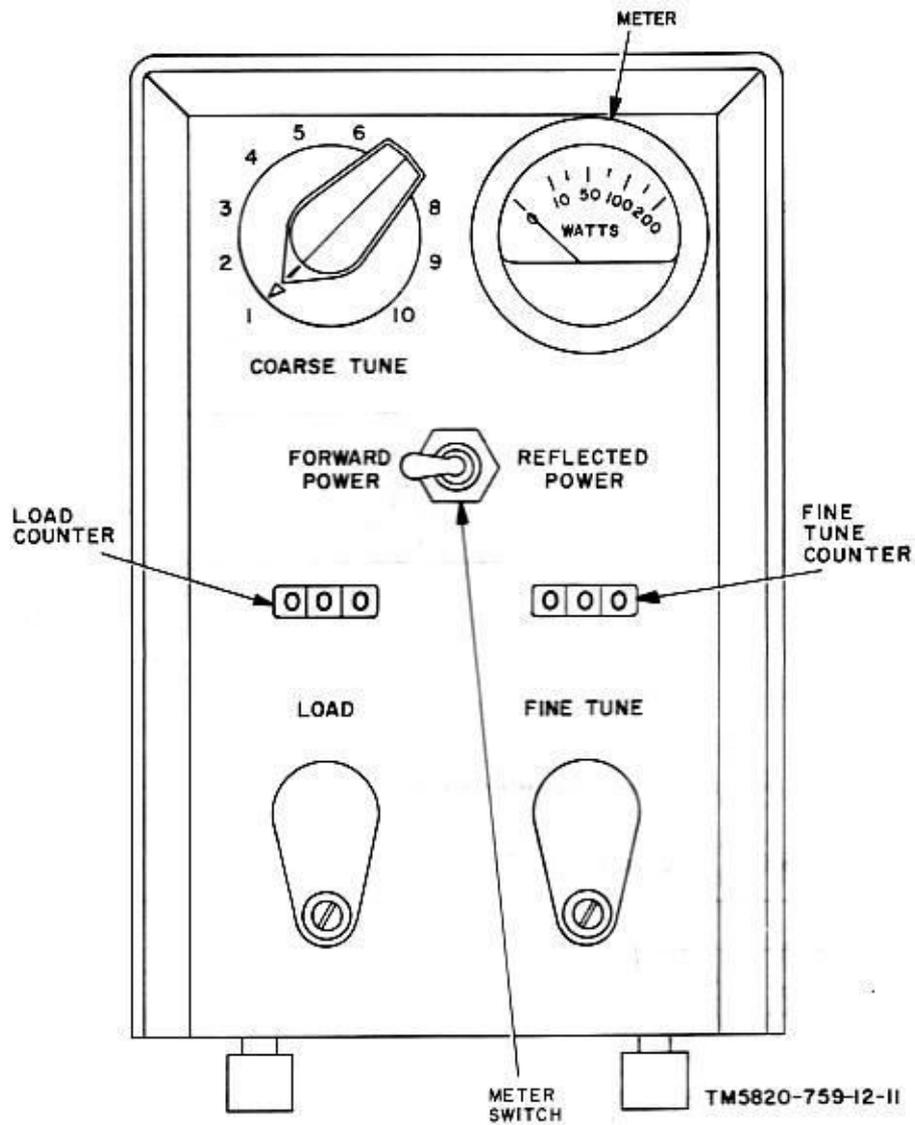

Figure 3-3. Coupler, Antenna CU-1782/GRC-165, front panel.
a. Antenna Coupler Front Panel Switches, Controls, and Indicators (fig. 3-3).